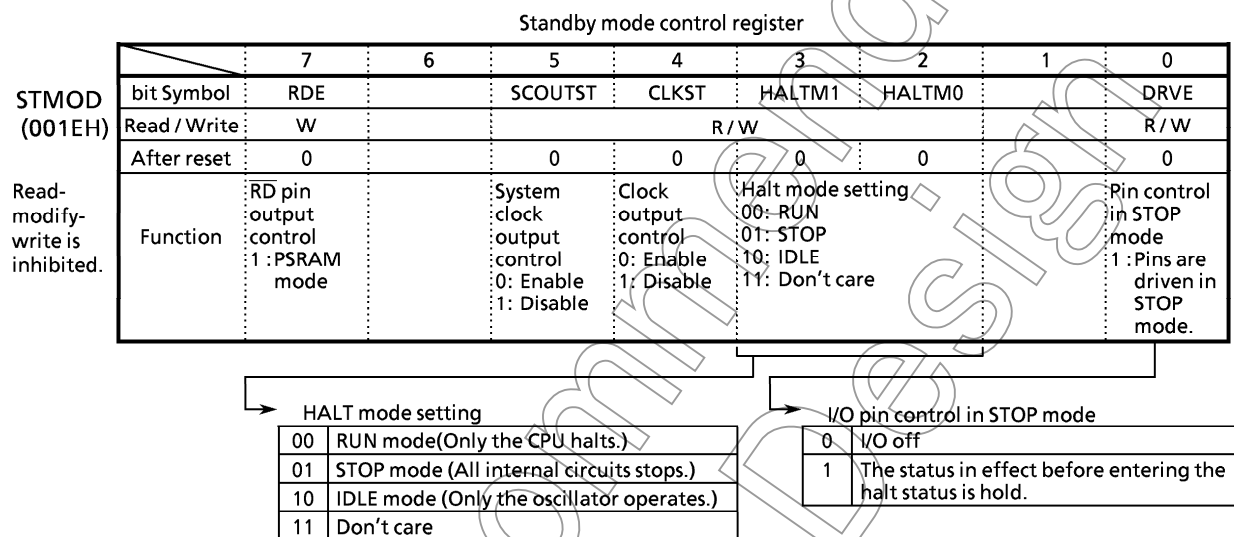

Figure 3.4 (1) Standby mode control register
In TMP95C001, when the “HALT” instruction is executed, the operating mode changes RUN, IDLE, or STOP mode depending on the contents of the standby mode control registers (STMOD) <HALTM1,0>. Figure 3.4 (1) shows the standby mode control register.